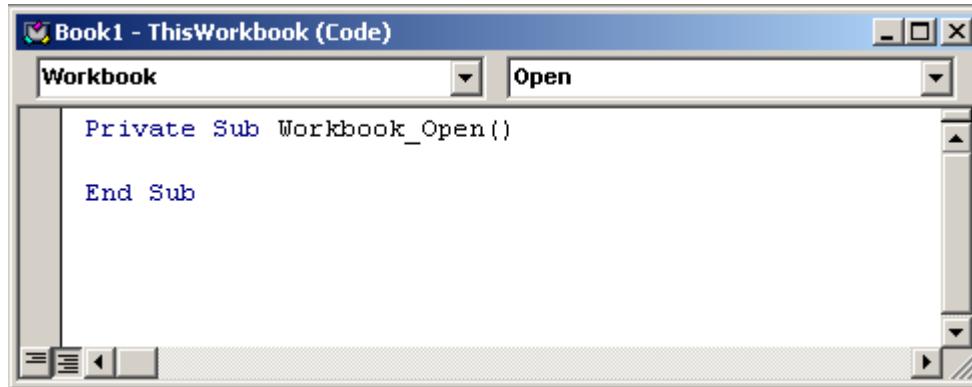

Figure 3 Code Header and Footer
- 9 In the Object dropdown box (the upper left corner of the code window), select *Workbook*. This inserts a code header and footer for the `Workbook_Open()` event, which will execute every time the workbook file is opened (Figure 3).